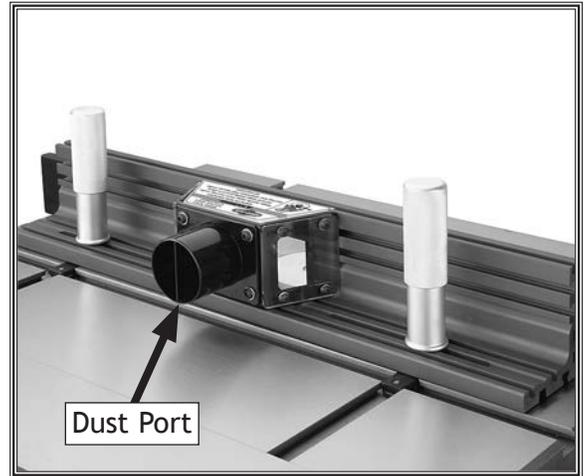

Figure 14. Dust port installed.
11. Attach the dust port to the back of the fence assembly with the (4) M5-.8 x 12 cap screws and (4) 5mm flat washers, as shown in **Figure 14**.